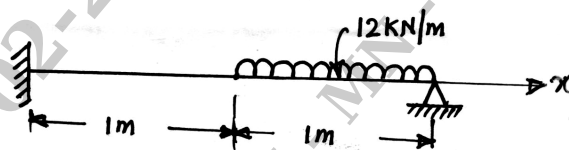

Fig Q5(b)
b. For the beam and loading as shown in Fig Q5(b) find the deflection at the centre of the beam. Assume $E = 200\text{GPa}$, $I = 4 \times 10^6\text{mm}^4$